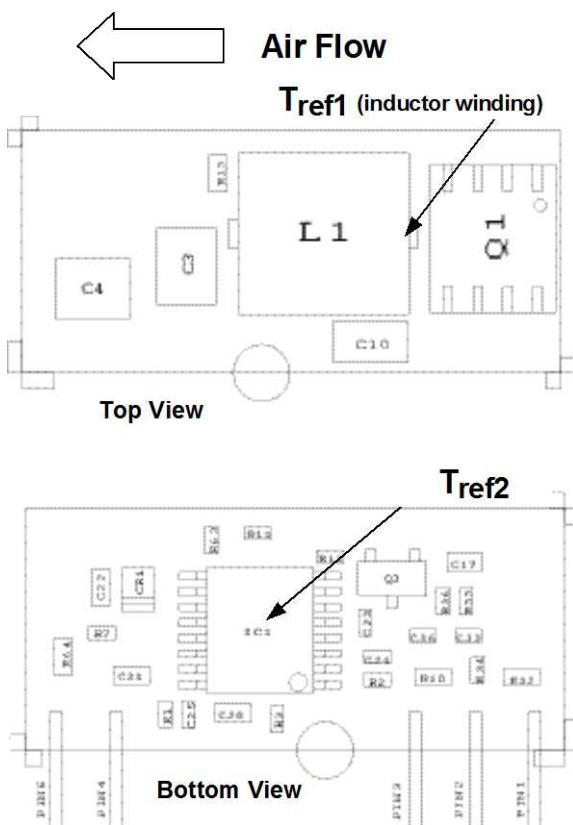
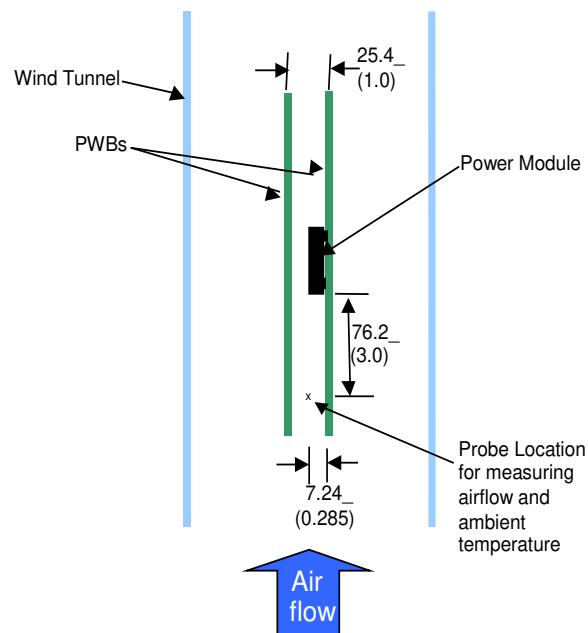

Figure 32. Tref Temperature measurement location.
Figure 33. Thermal Test Set-up.
To provide over temperature protection in a fault condition, the unit relies upon the thermal protection feature of the controller IC. The unit will shutdown if the thermal reference point  $T_{ref2}$  (see Figure 33) exceeds 140°C (typical), but the thermal shutdown is not intended as a guarantee that the unit will survive temperatures beyond its rating. The module will automatically restarts after it cools down.
Considerations include ambient temperature, airflow, module power dissipation, and the need for increased reliability. A reduction in the operating temperature of the module will result in an increase in reliability. The thermal data presented here is based on physical measurements taken in a wind tunnel. The test set-up is shown in Figure 33. Note that the airflow is parallel to the long axis of the module as shown in Figure 32. The derating data applies to airflow in either direction of the module's long axis.
The thermal reference point,  $T_{ref1}$  used in the specifications of thermal derating curves is shown in Figure 32. For reliable operation this temperature should not exceed 125°C.